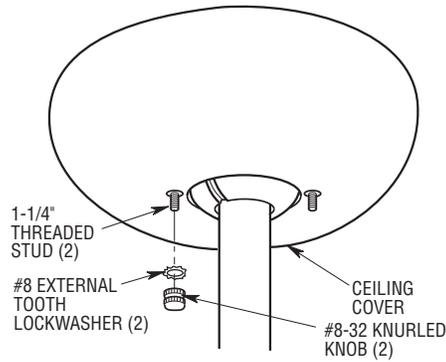

Figure 13
- 4. Lift the ceiling cover up to the threaded studs and turn until the studs protrude through the holes in the ceiling cover (Figure 13).
- 5. Secure the ceiling cover in place by sliding lockwashers (supplied) over the threaded studs and installing the two knurled knobs (supplied). (Figure 13). Tighten the knurled knobs securely until the ceiling cover fits snugly against the ceiling.